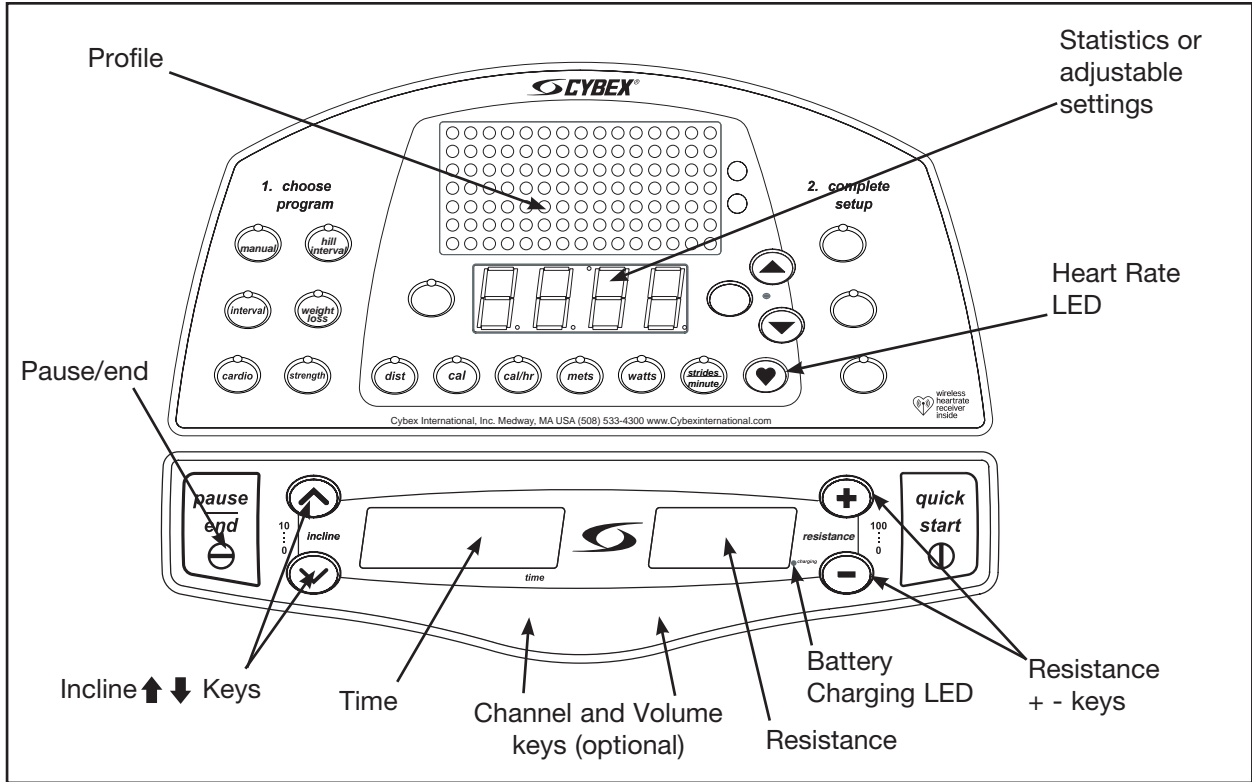

Figure 1A (Standard)
NOTE: Standard units contain a **Pause/end** key and a **Resistance** key. See Figure 1A.
6. Observe the four displays (See Figure 1A or 1B):
NOTE: Heart Rate is scanned only when you are holding the contact heart rate grips or using Polar compatible heart rate transmitter. See Figure 1A or 1B.